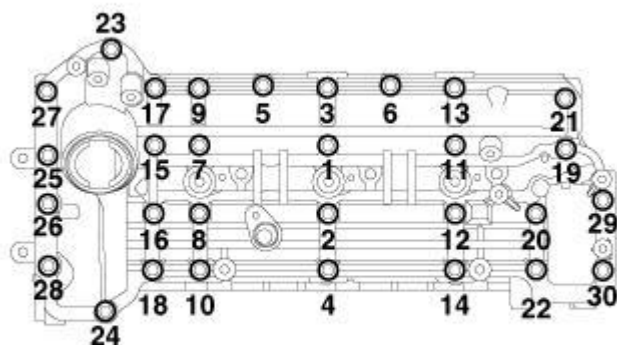

Fig. 248: RIGHT CYLINDER HEAD COVER TIGHTENING SEQUENCE
23. Using the sequence shown in **Fig. 248**, remove the cylinder head cover bolts and remove cover.